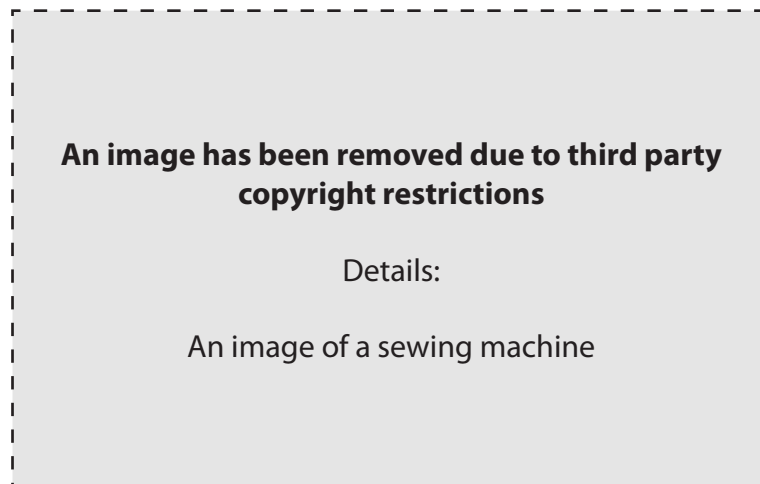

Fig. 1
- (b) (i) Name the piece of equipment shown in Fig. 1.